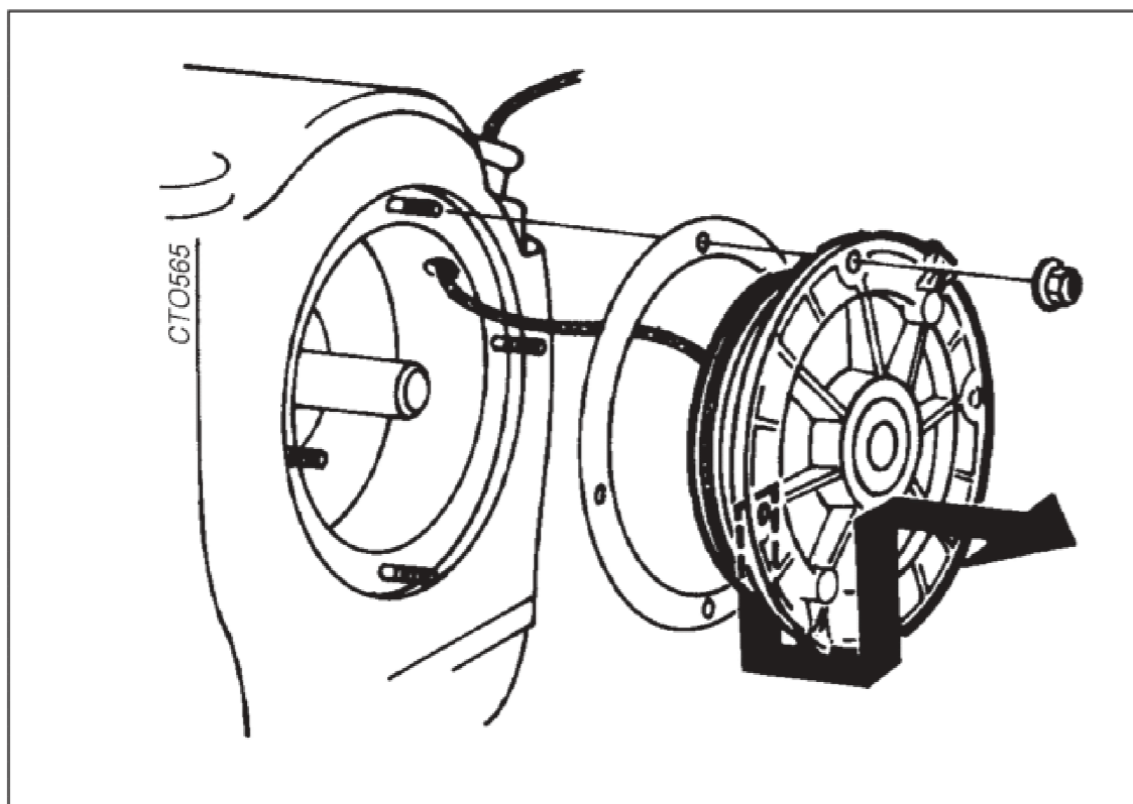

Fig. 15a
**Changing the starter cord (figs. 15a-15d)**